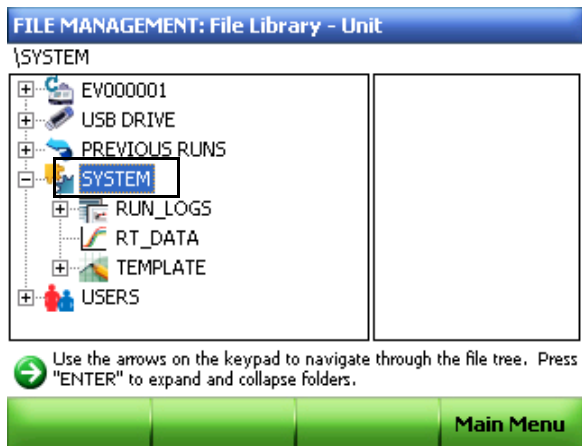

Figure 16. The SYSTEM folder is highlighted.
- **SYSTEM** folder — contains run logs, real-time PCR data, and templates (Figure 16)